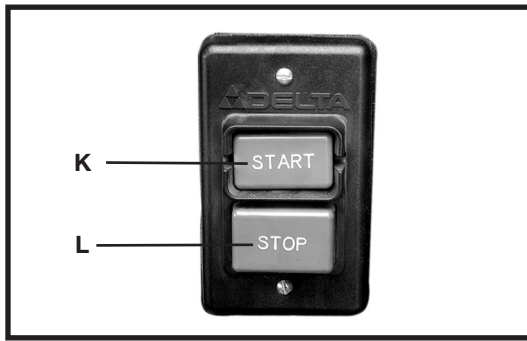

Fig. 17
To start the machine, press the "START" button (K) Fig. 17. To stop the tool, press the "STOP" button (L) Fig. 17.